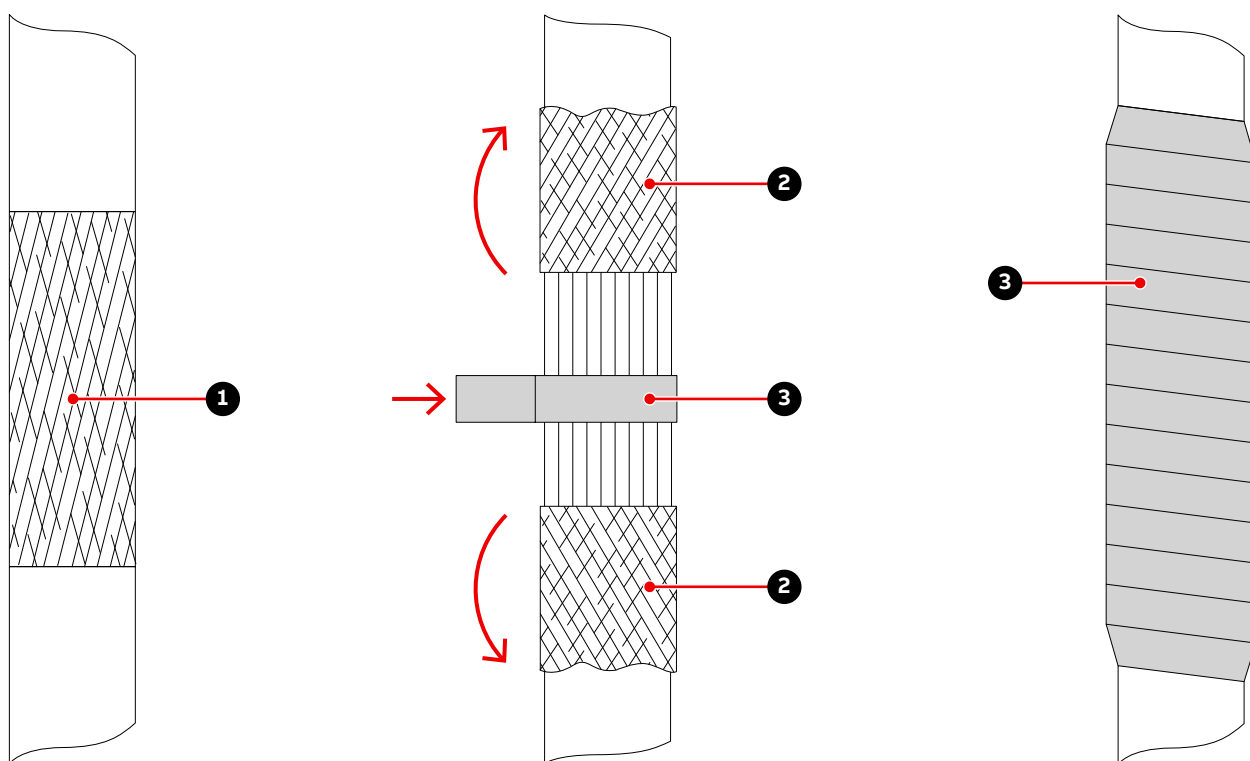

Figure 6–28 Preparing the screens of control cables for EMC plates
2. Pull the cable screen ends over the cable insulation to turn the conductive side inside out (2 in Fig. 6–28).
3. Connect the screens ends with a continuous conducting foil (3 in Fig. 6–28).